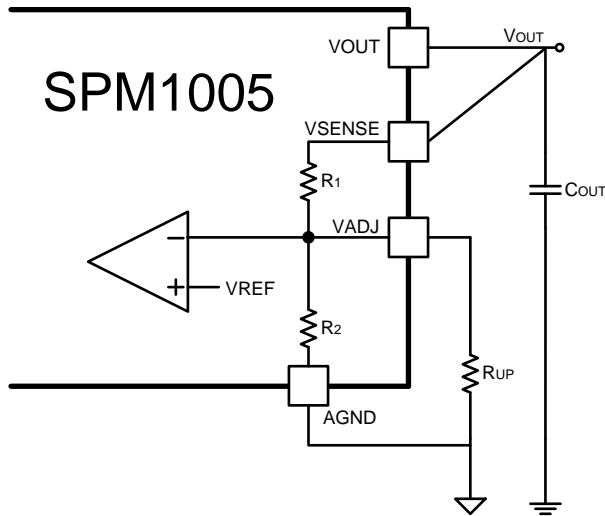
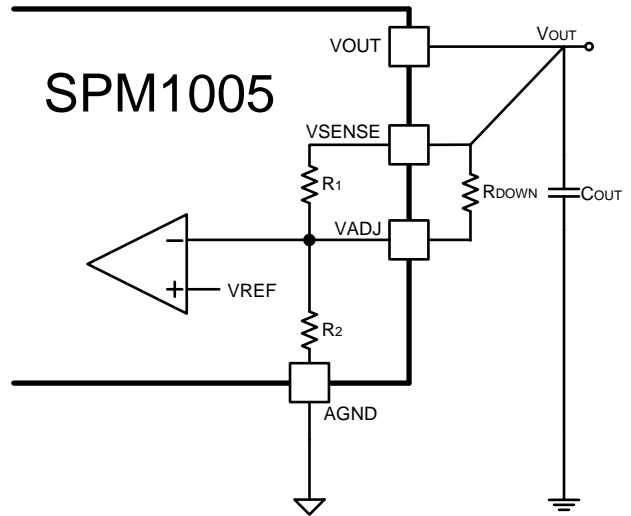
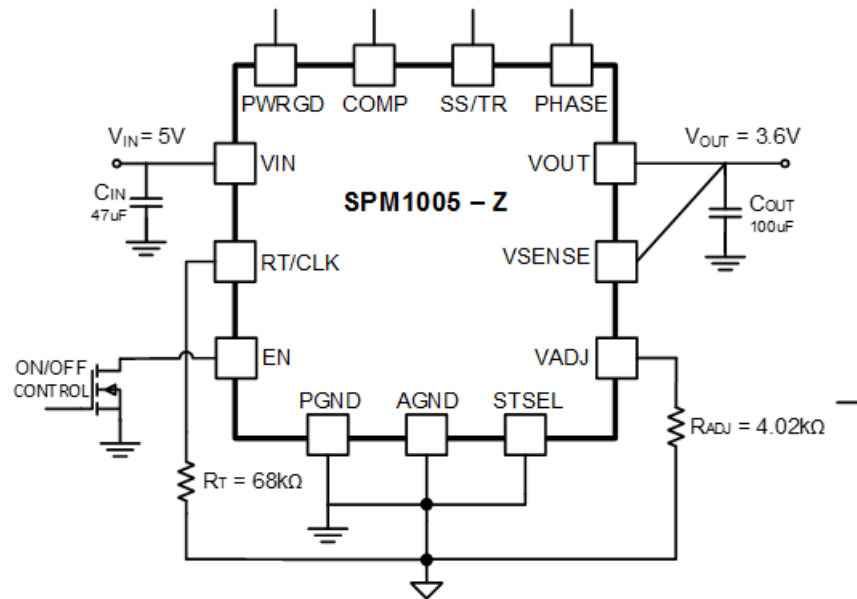

Fig. 16 Output Voltage Trim Up Circuit
Fig. 17 Output Voltage Trim Down Circuit
Fig. 27 Typical Schematic  $V_{IN} = 4.4V$  to  $6.0V$ ,  $V_{OUT} = 3.6V$ ,  $F_s = 1MHz$
VADJ (D8)	Output voltage adjustment pin . For SPM1005-Z, connect a resistor, $R_{ADJ}$ , between VADJ pin and AGND pin to set the desired output voltage, as shown in Fig. 27. For all other models except SPM1005-0V6, the output voltage can be trimmed $\pm 10\%$ by connecting a trim resistor between VADJ and AGND (trim up) as shown in Fig. 16, or a trim resistor between VADJ, and VSENSE (trim down), as shown in Fig. 17. The output voltage of SPM1005-0V6 can be trimmed up only.
where  $R_1 = 20k\Omega$  and  $V_o$  is the desired output voltage in Volts. [Note:  $R_1$  is internal to the module, as indicated in Fig. 17]
For other models in the SPM1005 series, the output voltage is already set internally but can be trimmed within a 10% band by connecting a trim resistor between VADJ pin and AGND pin (for trim up) or between VADJ pin and VSENSE pin (for trim down), as shown in Fig. 16 and Fig. 17, respectively. [Note: SPM1005-0V6 cannot be trimmed down.]
Figure 27 shows a typical schematic for a 5V input, 3.6V output application using SPM1005-Z. The adjustment resistor,  $R_{ADJ}$ , is selected as 4.02kΩ calculated based on Equation (1). In this example, the switching frequency is selected as 1MHz by connecting the timing resistor of 68kΩ between RT/CLK pin and AGND pin.